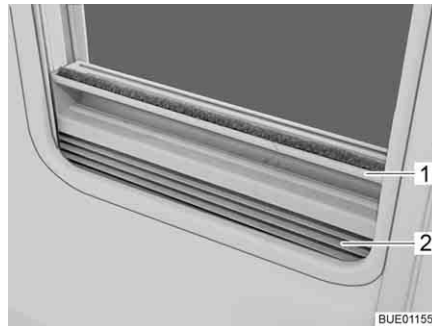

Fig. 47 Roman shade
- Closing:** ■ Grip the Roman shade (Fig. 47,2) in the middle of the holding bar (Fig. 47,1), pull it upwards and then release it at the desired height. The Roman shade will stay at this height.